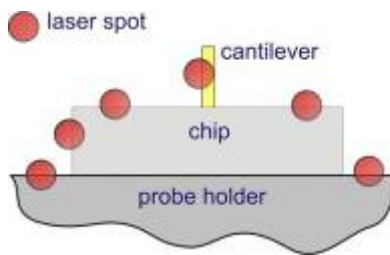

Fig. 2-87
- b. "Distorted" laser image on paper. This means that the laser beam hits the edge of any construction element or the cantilever. Note that image shape can be different (see examples in Fig. 2-87);